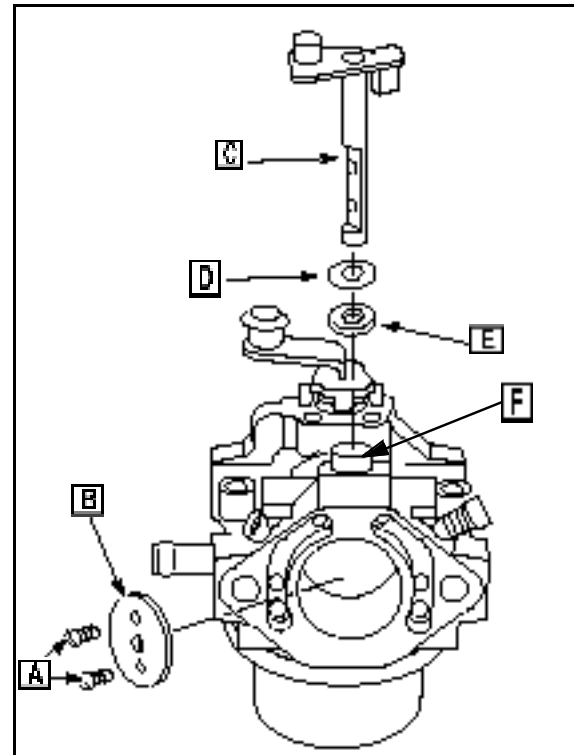
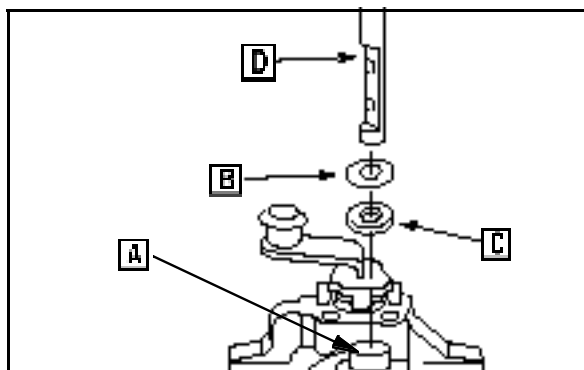

Fig. 80
Fig. 81
12. Remove throttle plate screws ([A] Fig. 81) and remove plate (B).
13. Slide the throttle shaft (C) out of the carburetor body.
14. Remove the throttle shaft seal (D) and washer (E).
15. Remove and inspect the bushing ([F] Fig. 80). Replace if worn or damaged.
1. Install throttle shaft bushing (A) to carburetor body with grooved side out, Fig. 81.
2. Place washer (B) and throttle shaft seal (C) on the throttle shaft ([D] Fig. 81).